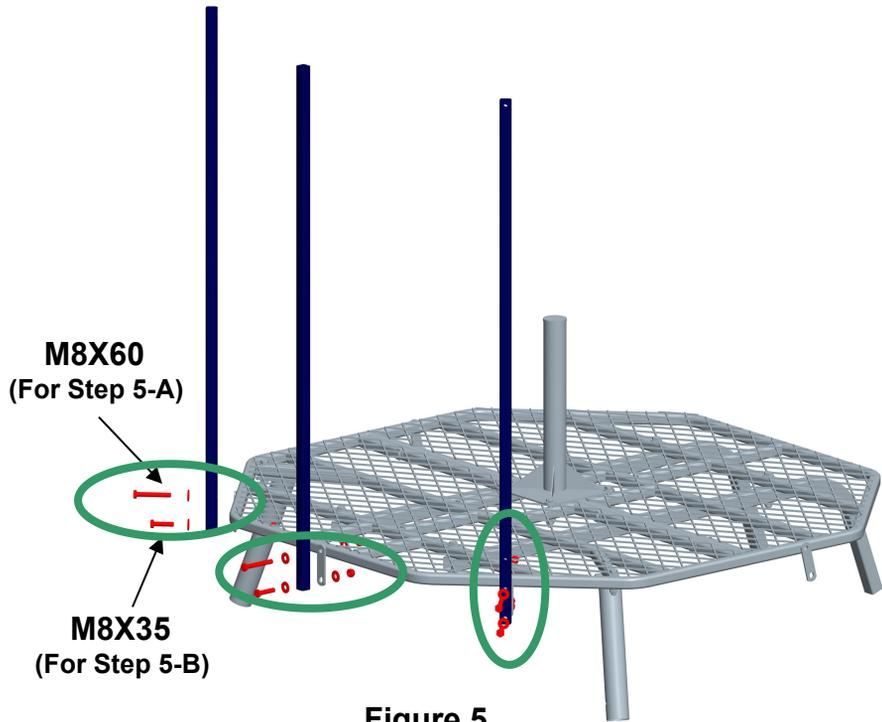

Figure 5
B: Then using one (1) M8x35 Bolts, two (2) Nylon Washers and one (1) Locknut (for Lower Hole). as shown in Figure 5.